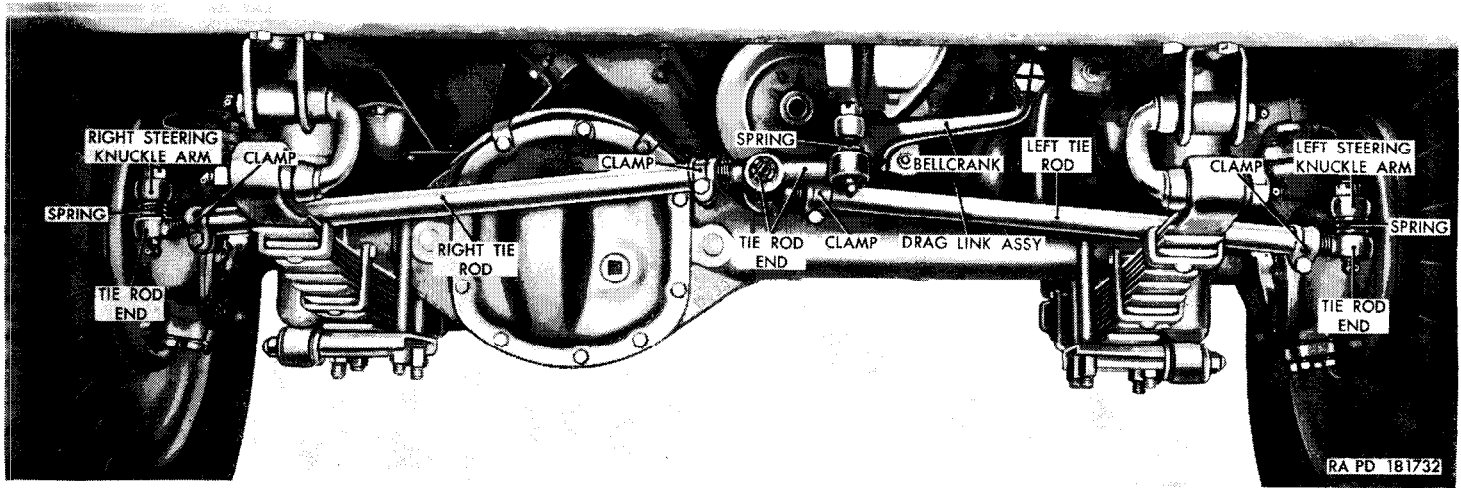

Figure 110. Steering tie rod with ends assemblies and bellcrank with bearing and oil seal assembly installed.
a. Inflate tires to correct pressure (par. 254), and check for proper wheel bearing adjustment. With the vehicle on a smooth, level surface, turn the steering wheel until the steering bellcrank is at right angles with the front axle. Place straight-edge or line against outside of left wheels; check to see if left front wheel is in line with or straightahead of the left rear wheel. If left front wheel is not straightahead, loosen the two nuts and screws securing the left tie rod and clamp (fig. 110), and turn tie rod to obtain straightahead position.
c. If toe-in is not correct, loosen the nut and screw securing the right tie rod end clamp (fig. 110) and turn tie rod to obtain correct adjustment. Make sure that clamp nuts and screws are tightened after adjustment has been made.
(fig. 110)